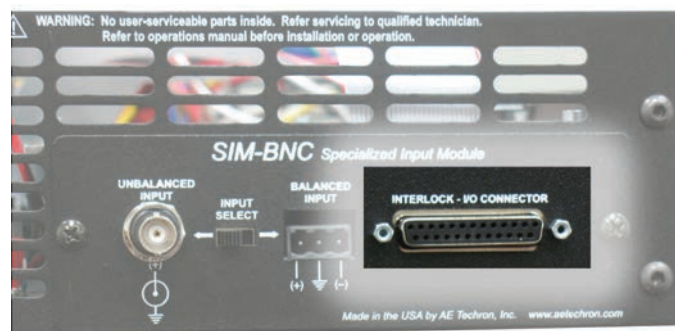

Figure 9.3 – Interlock I/O Connector
2. If both the Standby and Ready LEDs remain illuminated and the Interlock I/O Cable is being used, the amplifier is being held in Remote Standby mode by another device (see **Figure 9.3**). For more information on 7212 Remote Operation, see the **“Applications”** section in this manual.